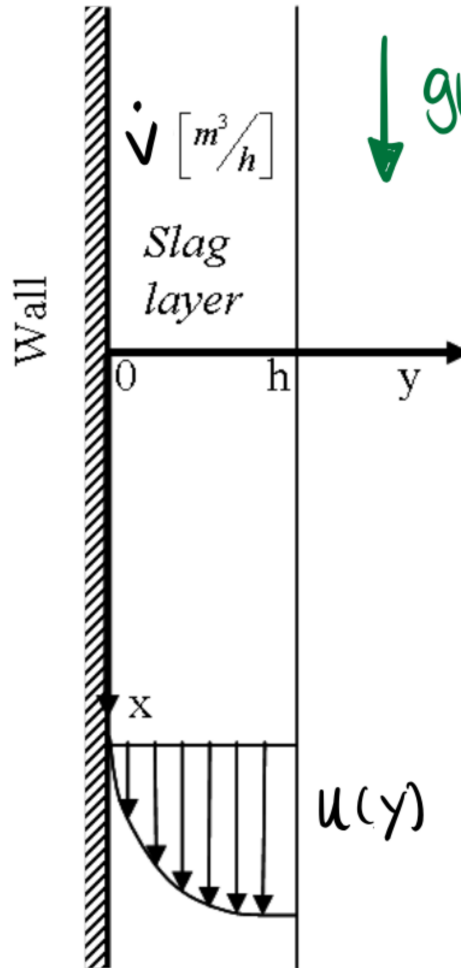

Figure 1: Slag flowing along a vertical wall.
- b. The Navier-Stokes equation in the x -direction is given as (gravity is acting in the positive x -direction - see figure 1):